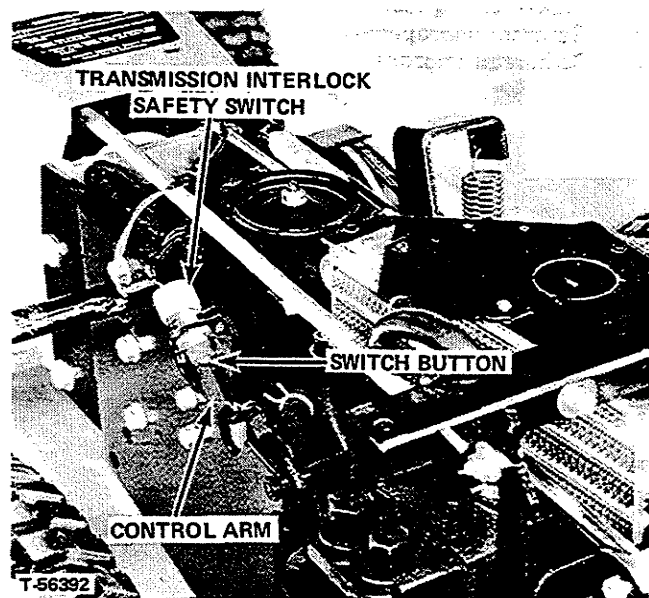

FIGURE 29
5. Check that transmission interlock safety switch is properly located that the switch button is depressed far enough to make contact only when the hydrostatic control is in neutral. Switch can be moved in its mounting bracket to align tip of control arm and switch button (Figure 29).